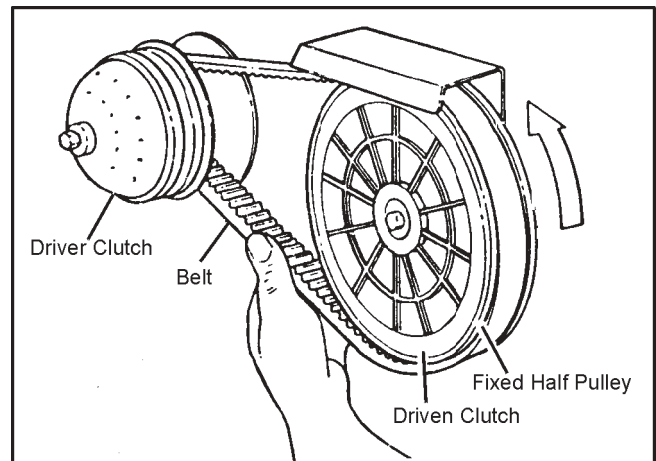

Figure 7-3. Removing the drive belt.
5. Ease the belt over the fixed half pulley of the driven clutch starting from the bottom of the clutch, while turning the clutch counterclockwise until the belt is off. (Figure 7-3).